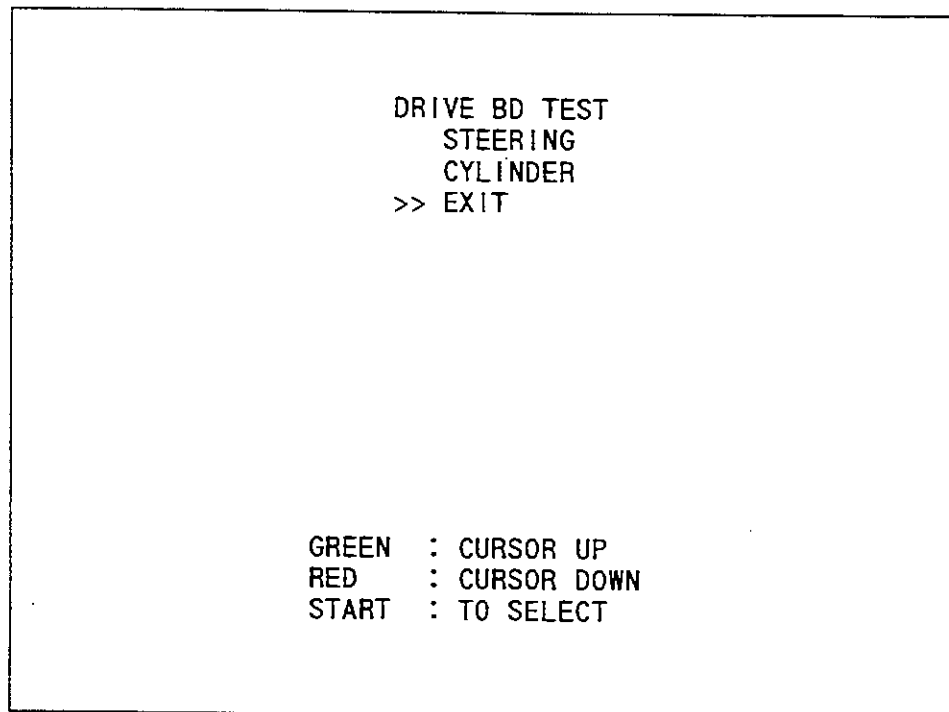

FIG. 10.8 DRIVE BD TEST
This test is comprised of 2 screens of which one allows the Steering Wheel Reaction Mechanism to be checked, and the other enabling Seat Moving Mechanism to be checked. Select "DRIVE BD TEST" on the MENU screen (Fig. 10.2) to have the screen (as shown in Fig. 10.8 a) appear. By using the SERVICE SW or VR1 (red) or VR4 (green), bring the arrow (>>) to the desired test item.
Fig. 10.8 b Steering Wheel Test
Choosing STEERING on the screen (Fig. 10.8 a) causes the screen (as shown in Fig. 10.8 b) to appear. This test checks the Steering Wheel Reaction Mechanism, and also, the V. R. values for the Steering Wheel's DRIVE BD as well as on-DRIVE BD DIP SW setting status.
- EXIT Causes the menu mode to return on to the screen. (Fig. 10.8 a)
Fig. 10.8 c CYLINDER TEST
Choosing "CYLINDER" in Fig. 10.8a causes Fig. 10.8 c screen to be displayed. This screen allows Seat movement mechanism, etc., to be checked. Move the arrow (>>) by using the SERVICE SW or VR SW1 (red) or VR SW4 (green). Check if the Seat movements are in accordance with the setting pointed by the arrow and the ENTRY LAMP lights up. On this screen, periodically check if the movements are in compliance with the settings.
- EXIT To return to the MENU screen (Fig.10.8 a).